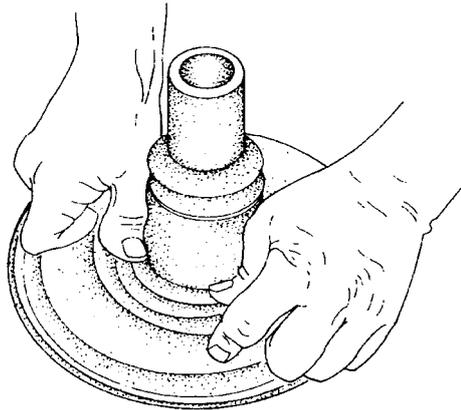

Figure 270 Installing the Front Diaphragm
- e. Install the front diaphragm (Item 17) on the valve body (Item 15) ensuring that the inner bead seats correctly in the locating groove between the pressure plate and the valve body (Figure 270).